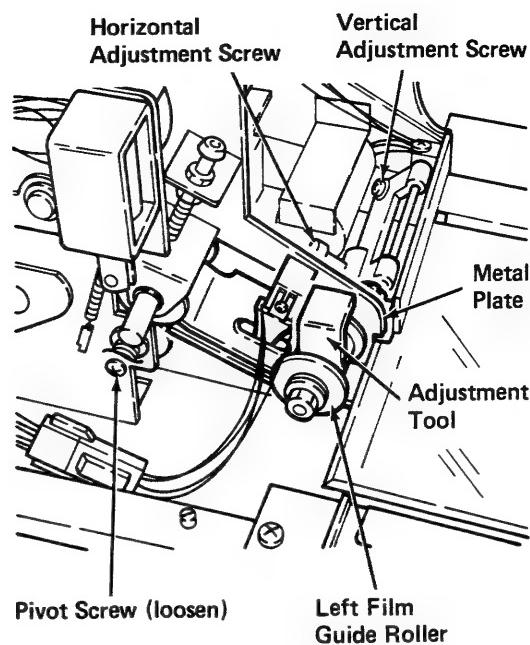

Figure 3-2A
3. Place the Film Guide Roller Adjustment Tool (78-8012-6552-7) against the 16mm flange of the Left Film Guide Roller (Figure 3-2A). The tool should touch the Metal Plate of the M-654.
6. Loosen the Adjustment Screw for the Left Film Guide Roller and with the Film Guide Roller Adjustment Tool (78-8012-6552-7) against the 16mm Flange, push the Left Film Guide Roller and tool against the Metal Plate and retighten the Adjustment Screw (Figure 3-2A).
8. Loosen the Pivot Screw and turn the Adjustment Screw for the Left Film Guide Roller (Figure 3-2A) clockwise to lower the Left Film Guide Roller or counter-clockwise to raise the Left Film Guide Roller.